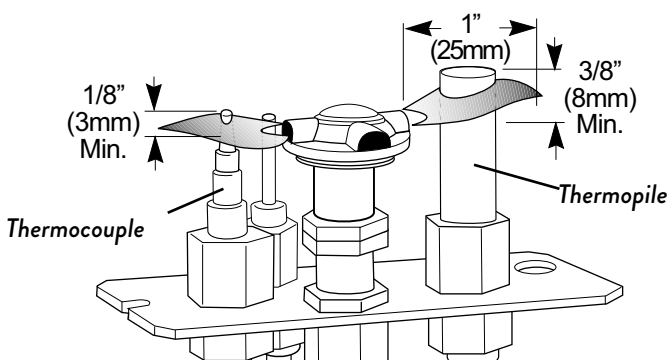

Figure 12.1.
2. **PILOT FLAME:** You can monitor the pilot flame located behind the burner at the rear of the firebox. The pilot flame should be steady - not lifting or floating. The flame should be blue in color around the pilot hood, with traces of yellow toward the outer edges. Fig. 12.1.